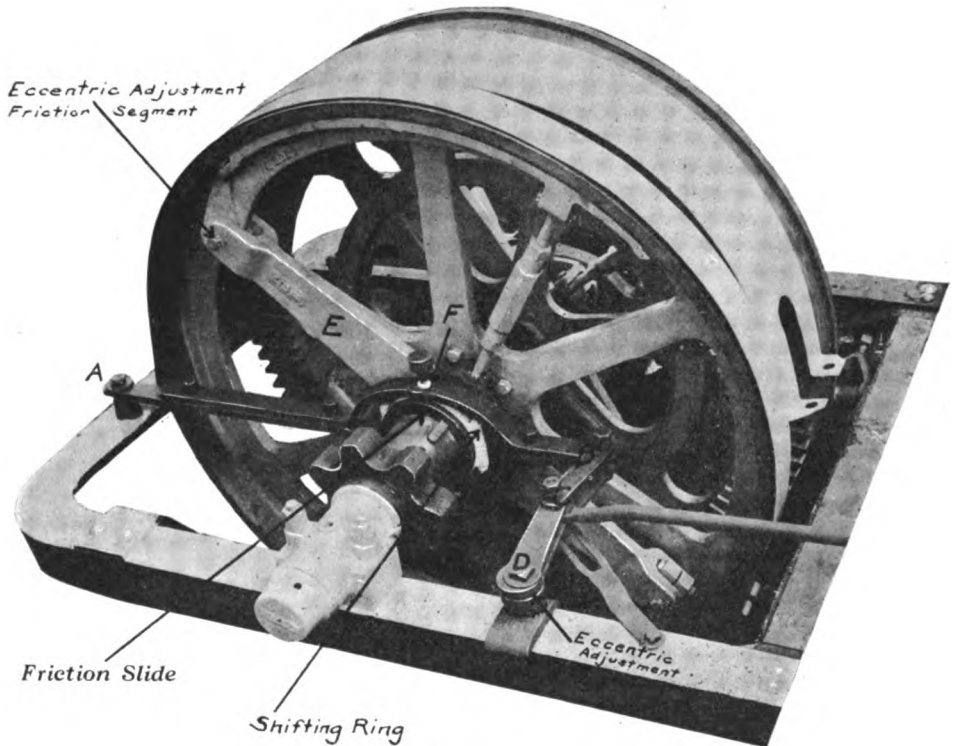

Fig. 44
- 247 — The shifting ring E2029 should last as long as the "Caterpillar," but it is the first member subjected to wear if the turnbuckle adjustment is made wrong. The shifting ring should "float" when the friction slide is thrown in with the shifting lever. Refer to Fig. 44.
In Fig. 44 you will notice the part called "eccentric adjustment." With